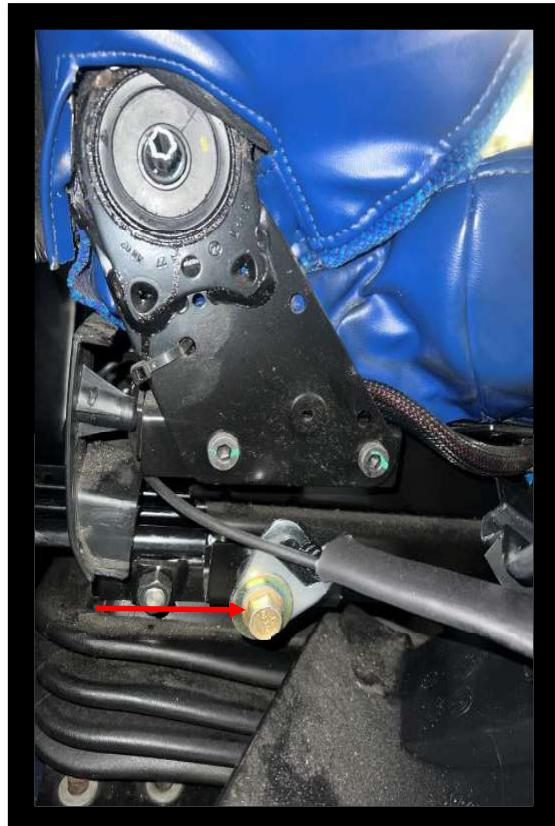

Figure 4: Seat Belt Mounting Bolt Location
7.1.5 Using a 5/8" socket, remove the seat belt buckle bolt and washer from the J-bracket. Set aside for re-use (Figure 4).